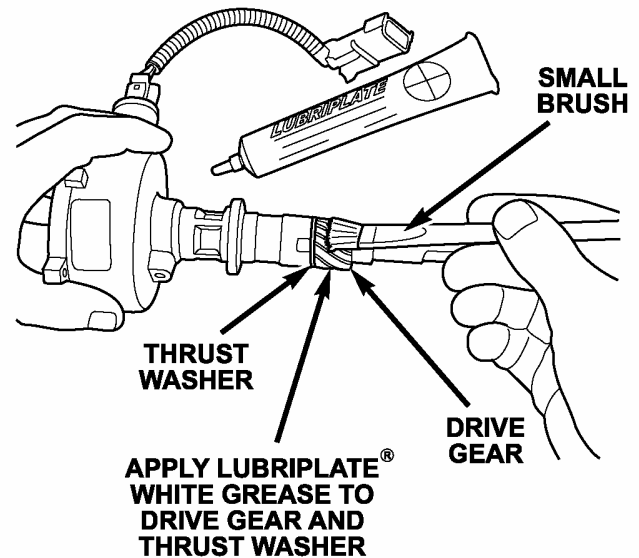

Figure 25
- j. Using a small brush, lubricate the new drive gear and thrust washer on the oil pump drive with Lubriplate (P/N 04549615) white grease (Figure 25).